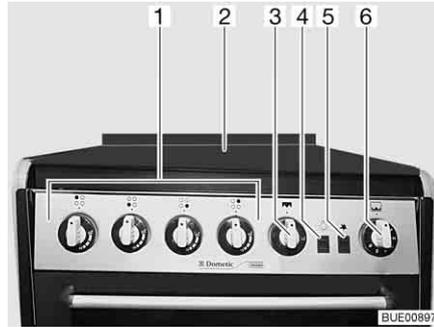

Fig. 186 Gas cooker with oven and grill
- Open the gas cooker lid (Fig. 186,2).
- Turn the control knob (Fig. 186,1) on the burner you wish to use to the ignition position (large flame).
- Press the lighting knob (Fig. 186,5) until there is a flame.
- ▷ The switch (Fig. 186,4) is used to turn the oven light on and off.
- Lightly press the control knob (Fig. 186,3) and turn to lighting position (large flame).
- Press the control knob (Fig. 186,6) slightly and turn it to an ignition position between 1 and 6.